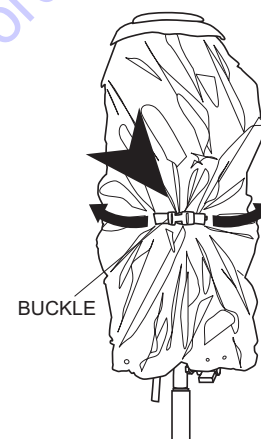

Figure 19. Releasing Buckle
5. Release the buckle on the belt holding the balloon together. See Figure 19.